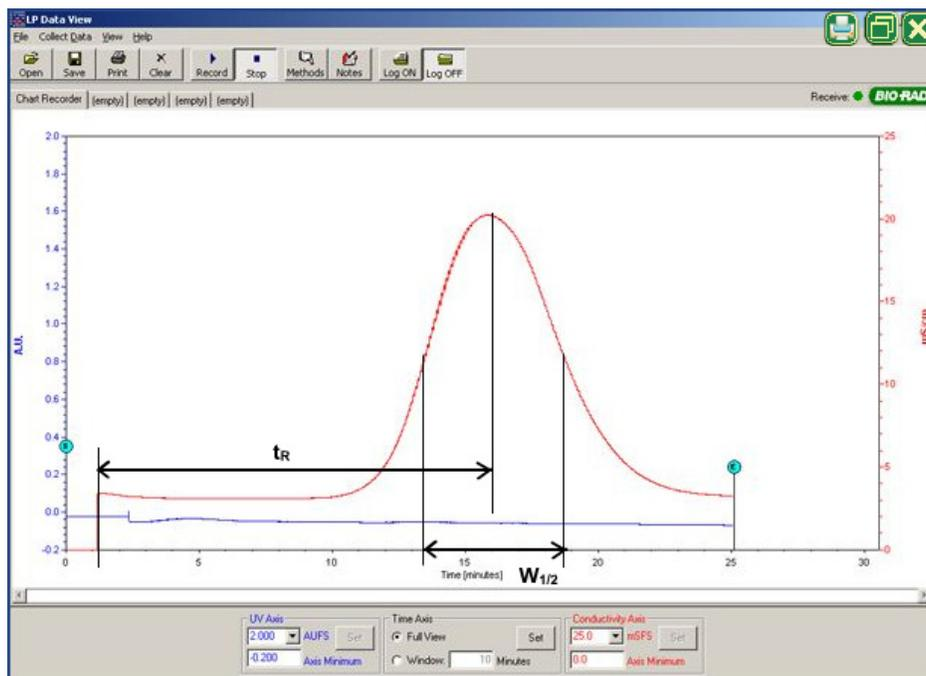

Figure 5: Chromatogram Example for Calculating HETP
- $h = \text{HETP}/D_p$Refer to Definitions (section 5) and Figure 5 as needed to complete the calculations. Refer to the process SOP for the  $D_p$  value.
- 9.5. Figure 5: Chromatogram example for calculating HETP